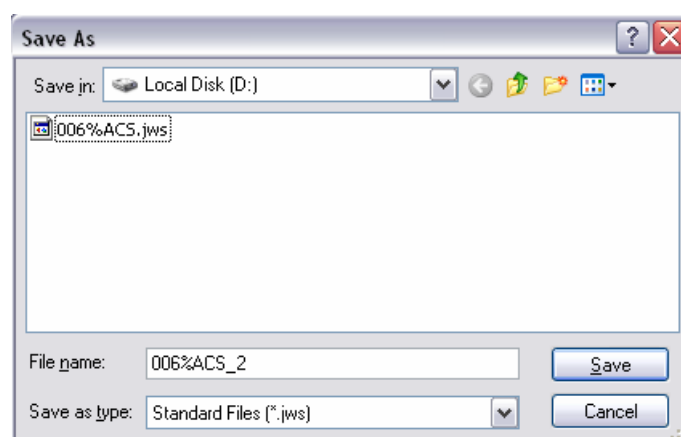

Figure 7.5 [Open New File] dialog box
- (1) Click on [Export] in the [File] menu. The dialog box of Figure 7.5 appears.
- (2) Enter the file name into the [File Name] box and click on the <Save> button. The JASCO Old std file is saved on the Local Disk (D:).
**Note (1):** The spectra in the View window can be saved as an ASCII file (.txt) and as a JCAMP-DX file. Select the file type from the [Save as type] menu of Fig. 7.5.